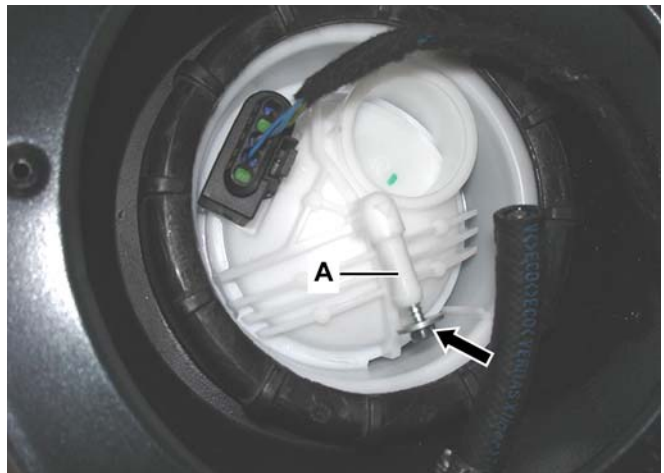

Figure 4
- **DO NOT** pull fuel hose (A) off from fitting (B) without first turning and loosening hose (A), or damage may occur to fitting (B).
2. Remove sleeve from inside of fuel filter module assembly fitting (A, Figure 4):
- Manually thread a body screw (arrow) into fitting (A) then tighten slightly using a wrench.